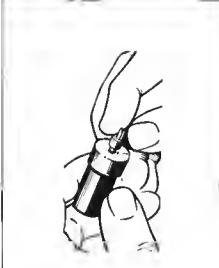

FIGURE 3-55. SLICE TEST
2. Insert valve in nozzle body, Figure 3-55.